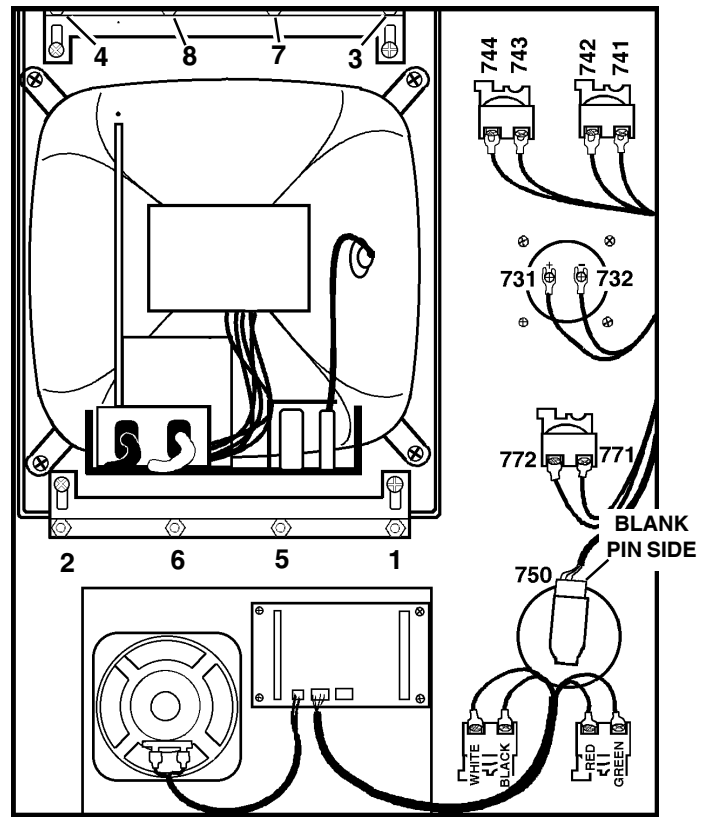

Fig. 5-1 Interior of control panel (rear).
7. Replace by sliding the new assembly onto the eight bolts (four each on top and bottom). Starting with the bottom right, place the washers and hex nuts on the bolts to hold in place. Refer to Fig. 5-1 for the order of replacement.
- Disconnect all leads to the switch's connectors. Ensure all leads are properly marked for reconnecting later. Refer to Fig. 5-1 for proper locations.
- Reconnect all leads to the correct switch. Refer to Fig. 5-1 for proper location(s).
3. Disconnect the two leads at the back of the **spindle load meter assembly**. Ensure the two leads are properly marked for reconnecting later. Refer to Fig. 5-1 for locations.